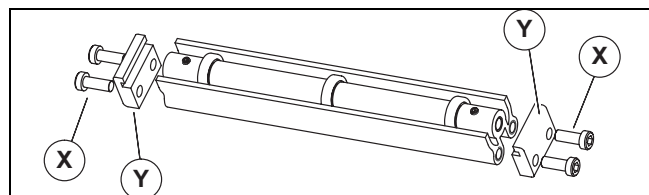

Figure 11
1. Locate return roller(s). Exploded view is shown in Figure 11.